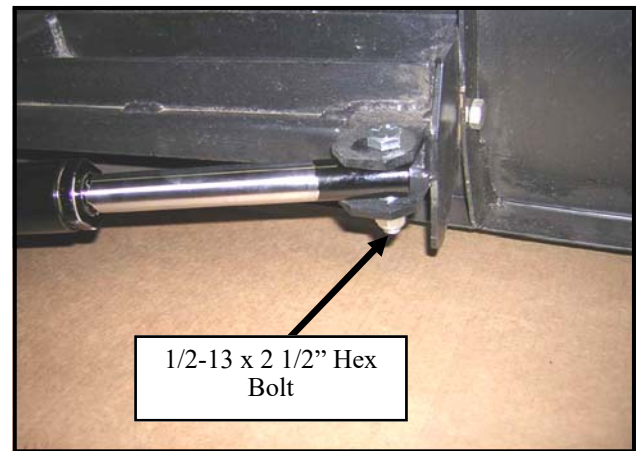

Fig. 9.3 Angle Cylinder
- 9.3 Attach the piston end of the angle cylinders between the brackets at the outer ends of the back side of the plow trip frame using 1/2-13 x 2 1/2" bolts. Fasten and tighten using 1/2-13 lock nuts. See Fig. 9.3. (Do not over tighten, 1 to 3 threads should be showing past nut)